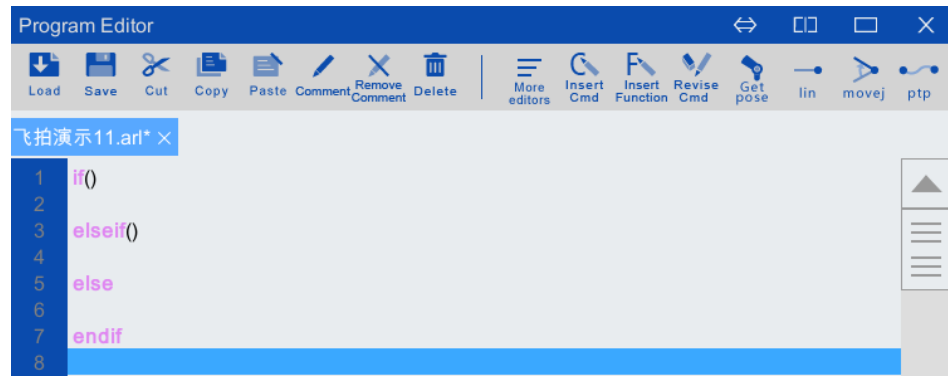

Figure 5-37 Contents of the program frame with the "if" instruction inserted
Step2. Click "Insert Cmd > Logic control > if" option in the program editor toolbar, and the program frame of the if instruction is inserted. Please refer to Figure 5-37.